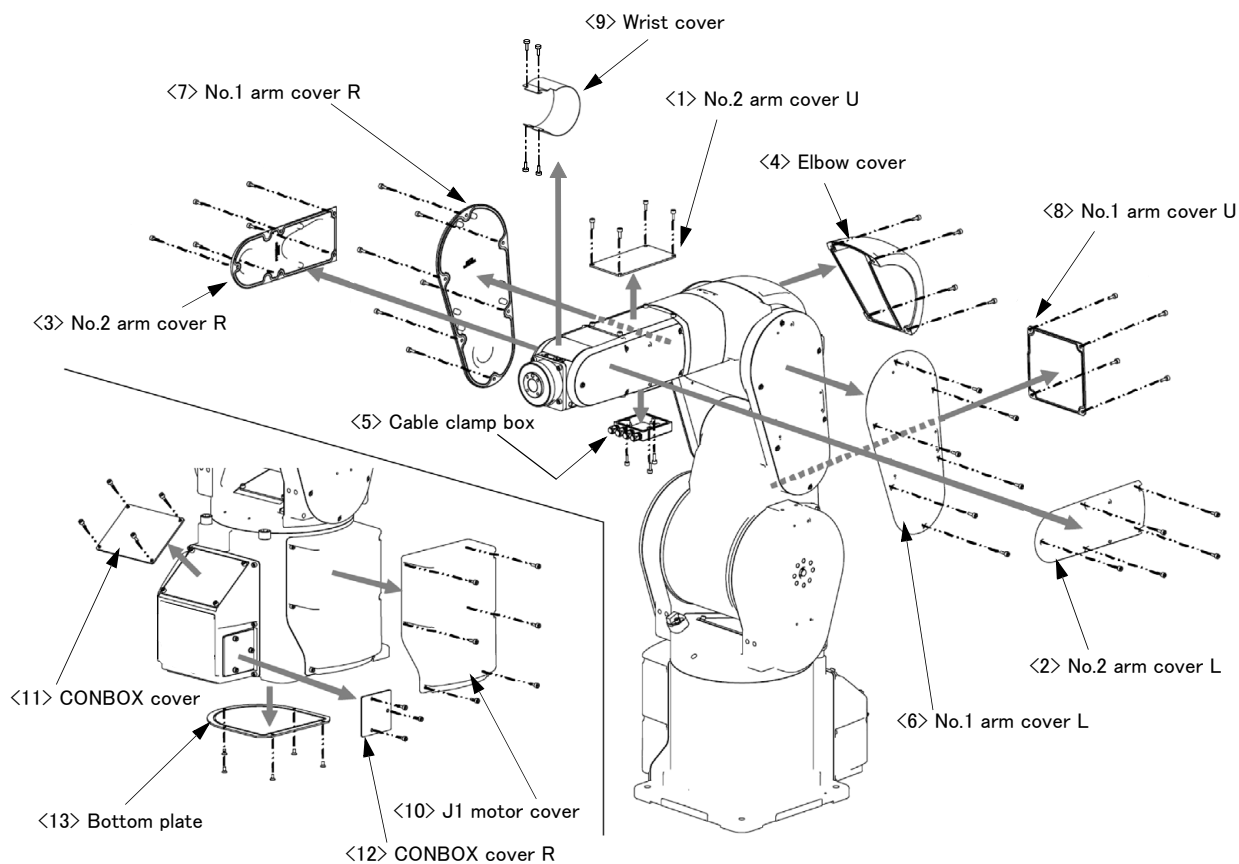

Fig.5-5 : Installing/removing the cover (RV-4FR/7FR series)
- (1) Refer to Fig. 5-5, and remove the covers.
- (2) The names of the cover and installation screw are given in Table 5-5. The number in Table 5-5 correspond to Fig. 5-5.
- (3) Depending on the robot's posture, some covers are hard to be removed. In such a case, change the robot's posture by performing jog operation to remove the covers.
- (4) When removing the wrist cover, move the J5 axis to the position of +90 degrees by jog operation.
- (5) When reattaching the covers after a maintenance inspection, proceed in the reverse order of their removal. Tightening the screw with the torque shown in Table 5-5.